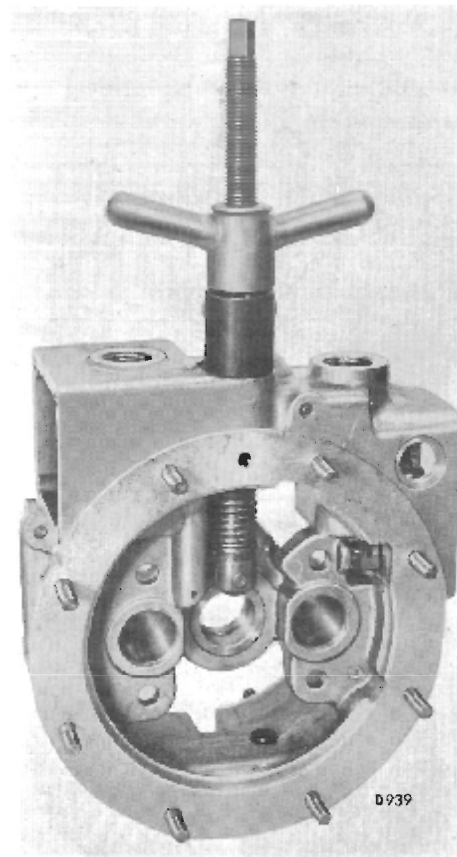

Fig. 14.
**IMPORTANT:** Remove the pump locating screw (33) before extracting the pump body.
Remove the pump plug (42), non-return valve spring (40) and ball (39), and the pump locating screw (33), see note above. Unscrew the non-return valve body (38) using tool L.213. Using tools L.183A, L.183A2 and adaptor L.205, extract the pump body as follows (Fig. 14):—